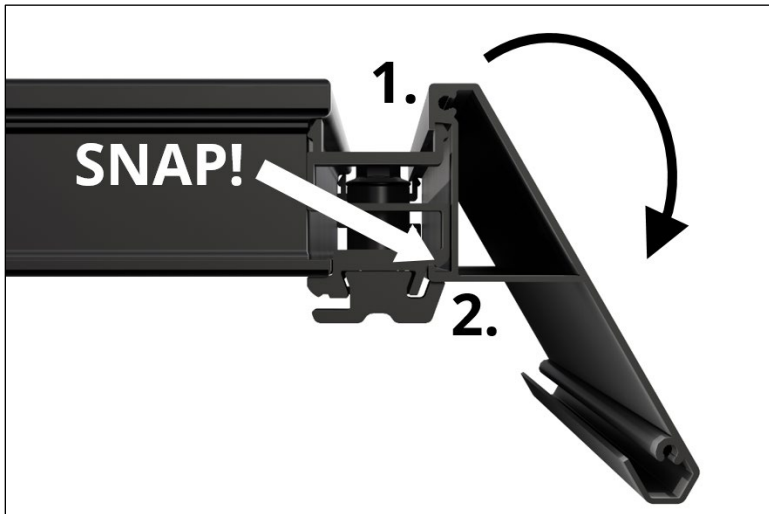

Fig. E4
14. After all of the skirt clips are in position, carefully rest the skirt on the top edge of the clips, precisely align the skirt end with the row end, and then tilt the skirt downward onto the clips until it snaps into place (Fig. E4):